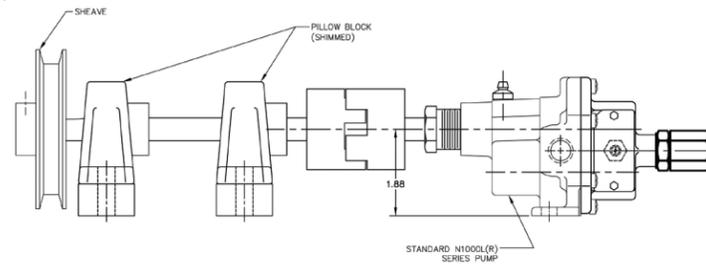

FIGURE 2
- 2) Use the standard pump arrangement by adding an independently supported jackshaft (see figure 2) or use kit 1P.